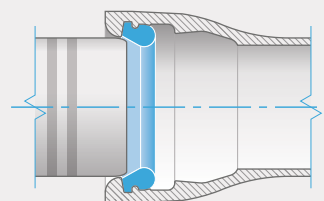

Figure 3
**INITIAL ENTRY OF PLAIN END IN SOCKET (Figure 3)**